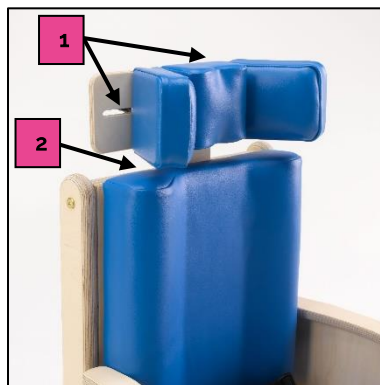

Fig. 4.2.11-1
1. Loosen the handwheels located on the back of the headrest (see Fig 4.2.11-1 Ref 1).
1. Loosen the handwheel located between the handrest and backrest (see Fig. 4.2.11.1- Ref 2)